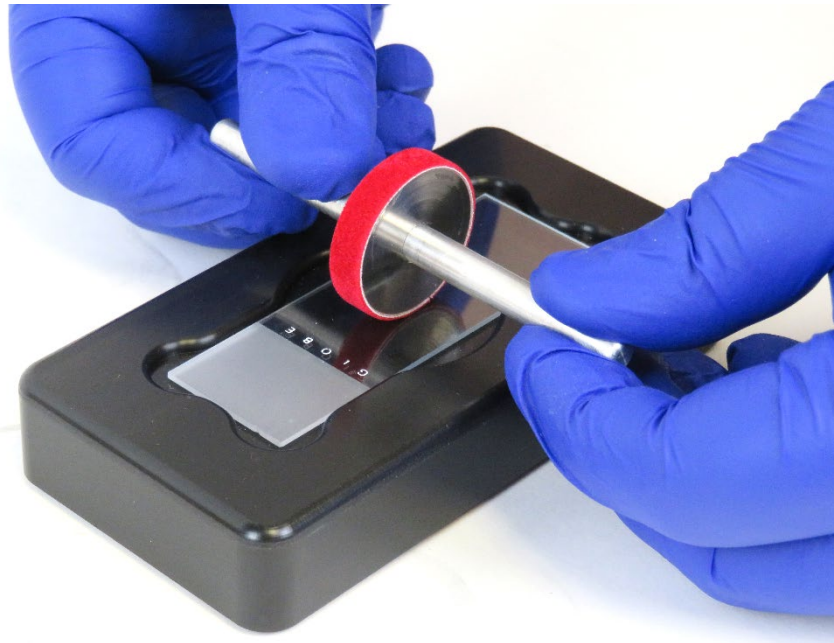

Figure 7: *Rolling the Tool to Even Out the Padding and Activate the Pressure-Sensitive Adhesive*
- Finally, roll the tool under firm pressure against the glass slide as shown in **Figure 7**. This will ensure that the thickness of the Repadding Strip is even and there are no air bubbles. In the case that a gap opens at the edges of the Repadding Strip as the adhesive relaxes, press the ends together and roll the tool again to close the gap and ensure sticking of the Strip.